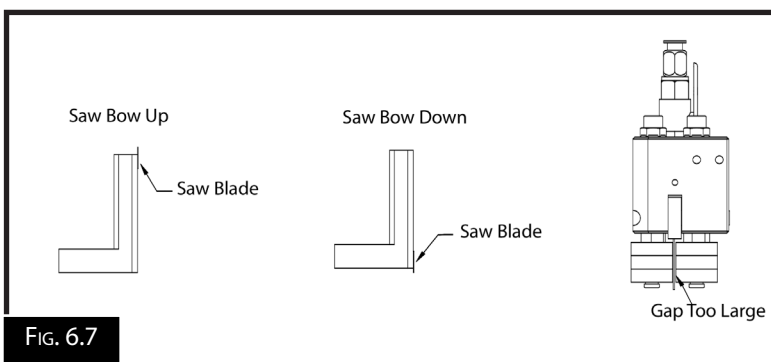

FIG. 6.7
2. Inspect the blade guides to see if there is a gap between the bearings and the blade (Fig.6.7)